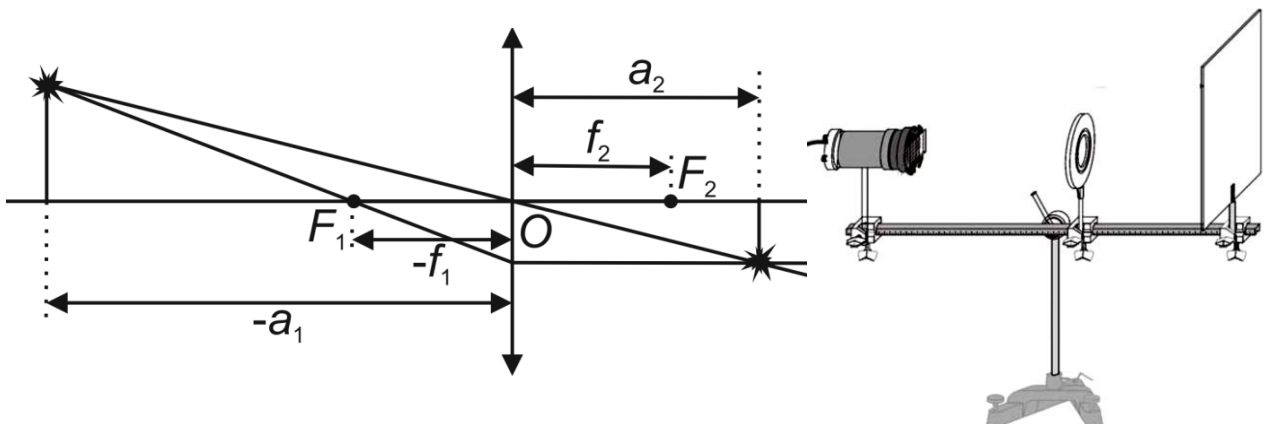

Figure 514.1. Ray diagram in a thin lens (left) and experimental setup for determining the focal length of a converging lens (right)
1. Install the lamp, converging lens, and screen on the optical bench (Fig. 514.1).